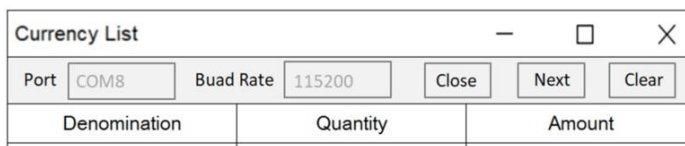
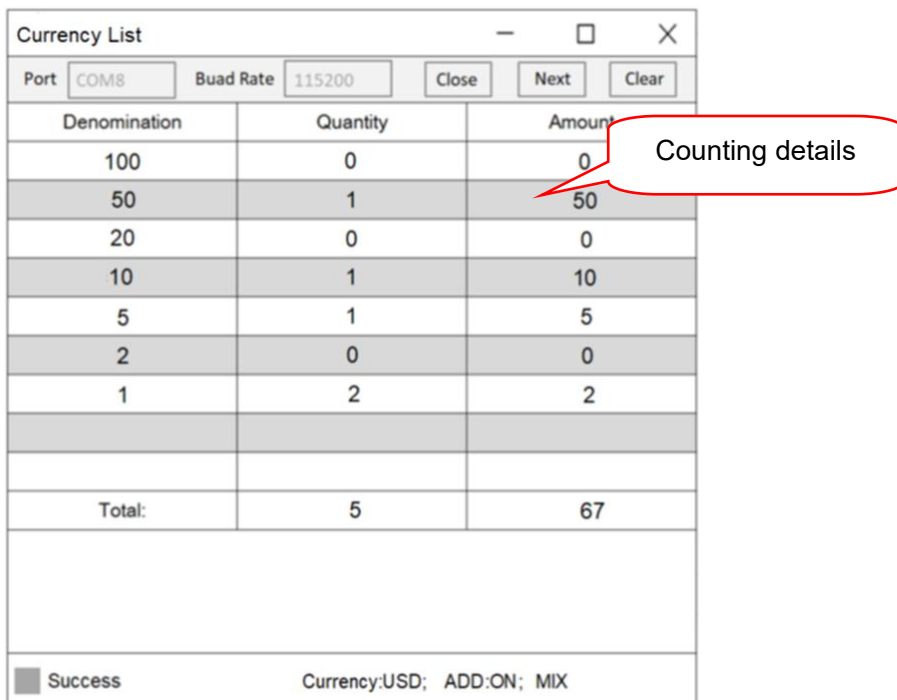

Figure 64
Figure 65
3) Press the Open key again, the font of serial port and baud rate will be dimmed, OPEN will be changed to CLOSE, and then counting can be performed and the counting information can be checked, as shown in Figure 64 and Figure 65 below.